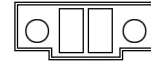

Fig. 16. Terminal block for connection to the inverter shut-down auxiliary contact of the manual bypass board.
- The SLC TWIN has a signal block through which it is possible to activate the shut down command for the UPS's inverter when closing the circuit. This normally open contact is intended for connection to an external manual bypass switch or disconnecter. (see Fig. 16).